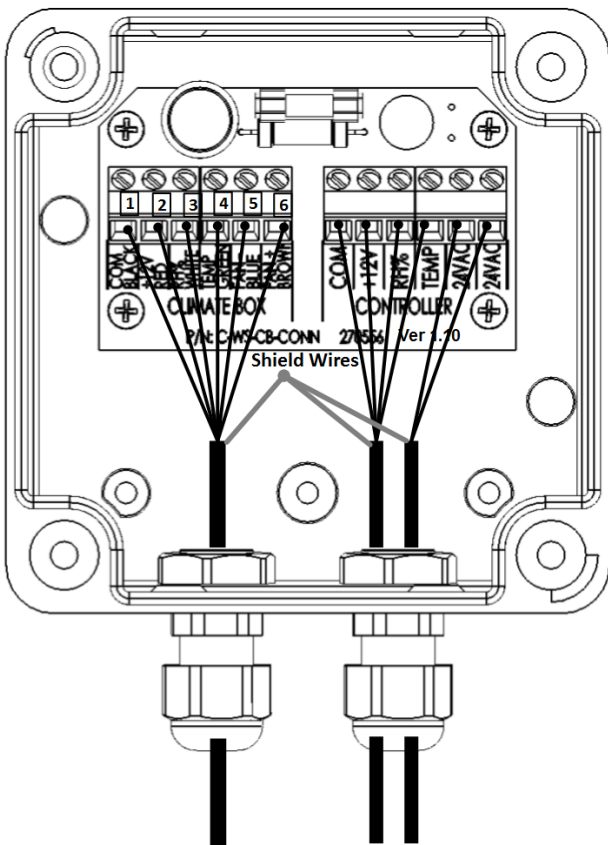

Figure 6: Connection Box shield cables wrap
2. Strip the Connection Box shield cables and wrap them together as shown in Figure 6.